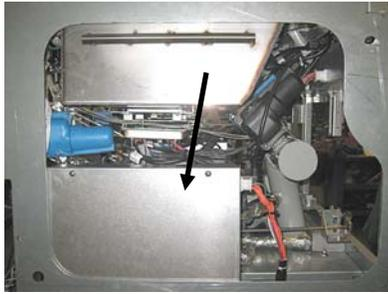

Figure 34
5. Remove the two screws securing the cover of the contactor box cover from the contactor box (see Figure 34).